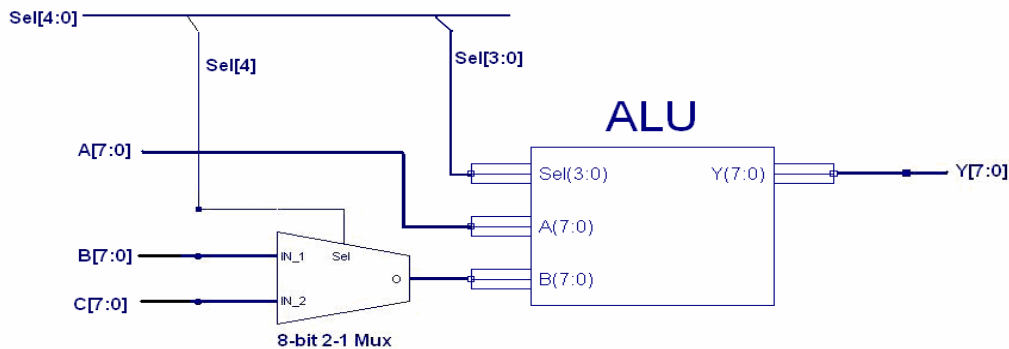

Figure 2: Block Diagram of an 8-bit Arithmetic-Logic Unit with a multiplexed input.
The diagram for the circuit to be implemented is given below in Figure 2. The design has 3 8-bit input busses and 1 8-bit output bus. 2 of the input busses pass through an 8-bit 2-1 multiplexer, before being connected to the B input bus of the ALU. One of these busses will be selected based on the value of a fifth select bit – S₄. The ALU module will be
7. In the *ALU_8bit.v* file, declare the top level module of the 8-bit ALU: *ALU_8bit*, listing and declaring properly all the input and output ports. There should be 3 8-bit wide input ports of type *'wire'* (for A, B and C), one 8-bit wide output port of type *'reg'*, (for Y), and one 5-bit input port (for the select lines S_4 through S_0). This module will implement the functionality described by Figure 2.